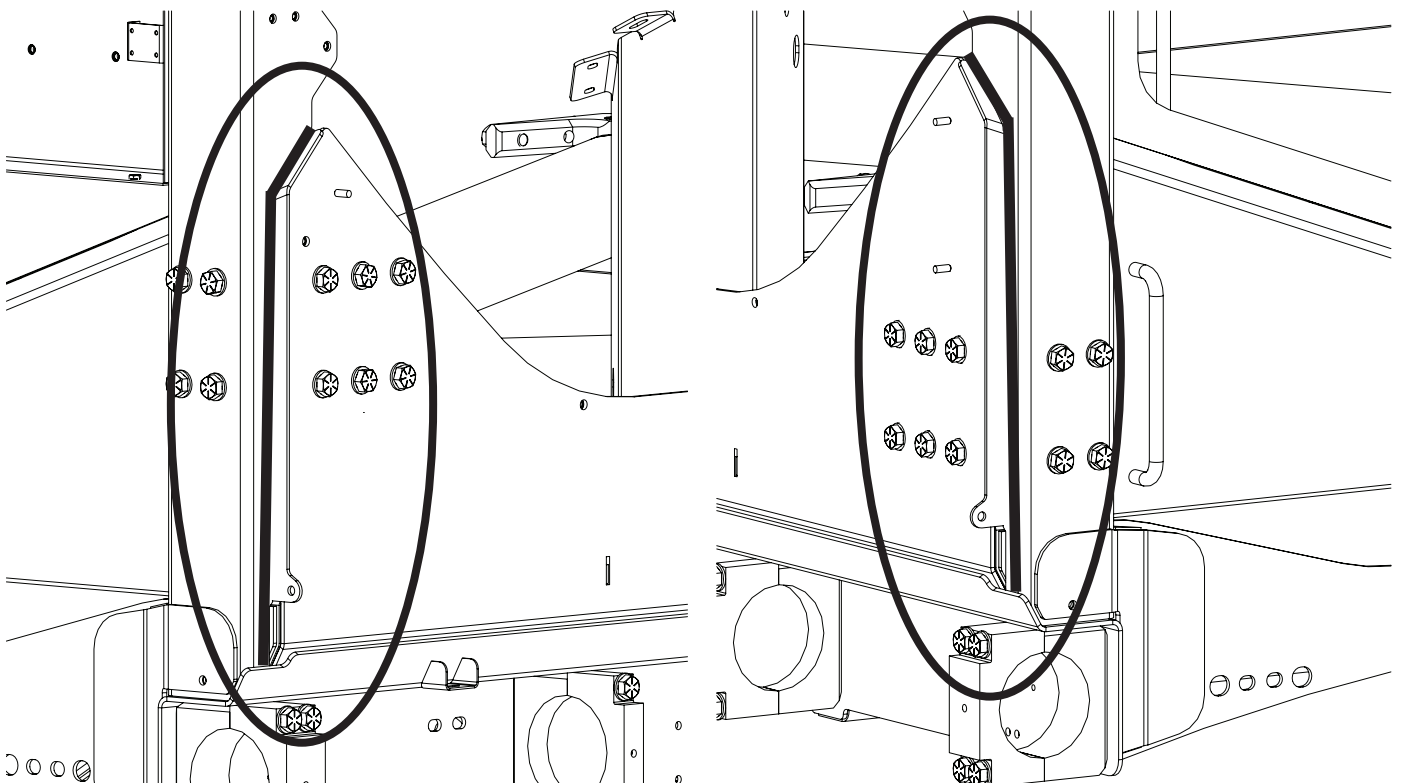

Figure 9
20. When all of the ejector bolts have been replaced and torqued on both sides of the vehicle, inspect the head frame post weld on each side of the vehicle for cracking (Figure 9). If cracked weld is found on either or both sides, contact McNeilus National Service at 888-686-7278 for more information.